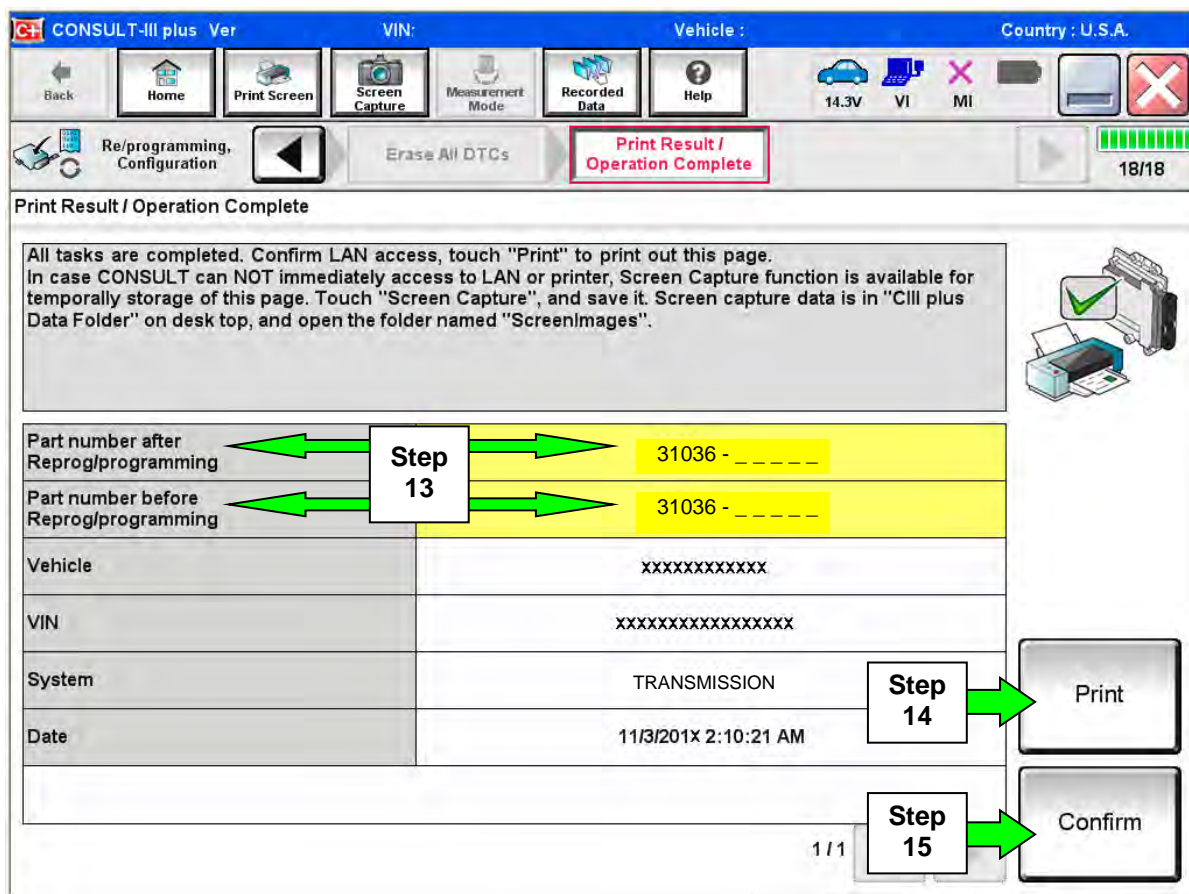

Figure 7B
12. When the entire reprogramming process is complete, the screen in Figure 7B will display.
14. Print a copy of this screen (Figure 7B) and attach it to the repair order for warranty documentation.